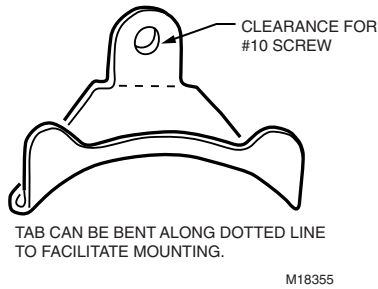

Fig. 9. 314439 capillary clip.
2. Use the 314439 capillary clips (order separately) to install an averaging element. See Fig. 9.